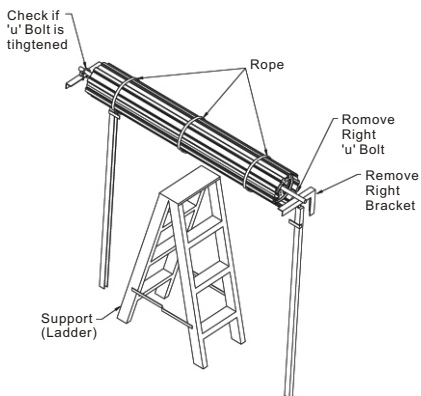

Fig2
- Support the right hand end of the door with a suitable prop, e.g. step ladder and soft padding to protect the door surface. (Fig. 2)